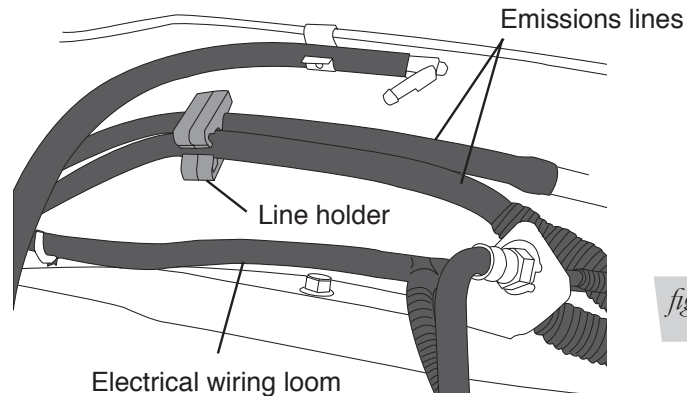

fig. 4
Gas engine models have emission lines on the inside of the frame. If your model truck has emission lines running along the inside of the frame rail (fig. 4), it will be necessary to relocate those lines as follows:
- Carefully push the line holder out of the frame above the axle. Try to minimize damage because it will be reused later. It may also be helpful to remove any holders forward or rearward of the axle to aid in positioning the lines once the upper brace has been installed (fig. 4). The same holds true with the electrical wire loom holders.